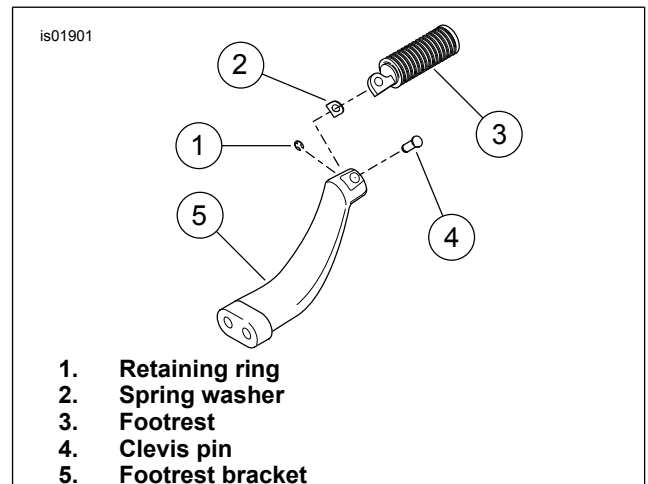

Figure 2. Remove Left Footrest from Support
4. See Figure 2. Remove the retaining ring (1) from the clevis to free the footrest clevis pin (4). Remove the clevis pin and footrest (3) from the footrest support. Save footrest, clevis pin and spring washer (2) for installation. Discard retaining ring and footrest bracket.